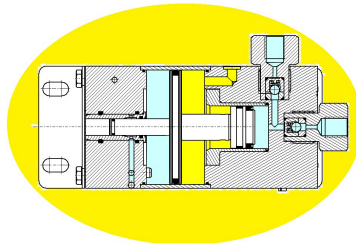

Fig. 10-2 Display of ATEX zones for MPLV4, MPLV7
- 4 Equipment category -/2G: The device boasts multiple equipment categories. Admissible zones can be found in figure 10-2 to 10--5 "Display of ATEX zones".
- 9 Equipment protection level (EPL) -/Gb: The device boasts multiple equipment protection levels. Admissible zones can be found in figure 10-2 to 10--5 "Display of the ATEX zones".